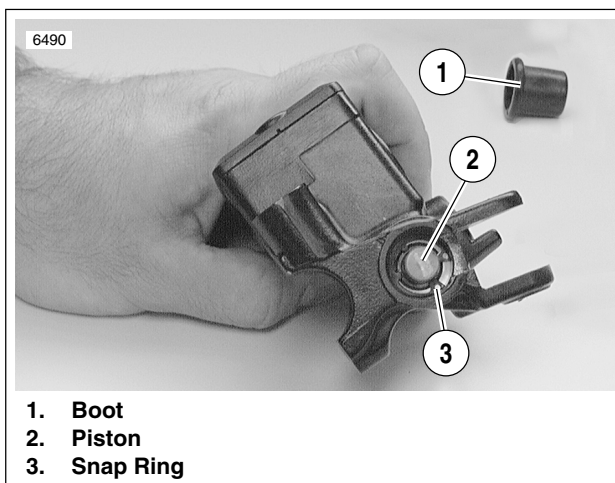
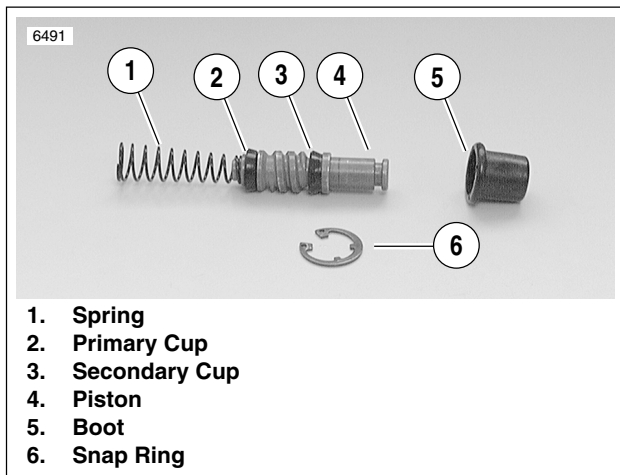

Figure 2-24. Snap Ring
Figure 2-25. Piston Assembly
3. See Figure 2-24. Compress piston (2) and remove boot (1).
4. Depress piston assembly and remove internal snap ring (3). Discard snap ring.
5. See Figure 2-25. Remove piston assembly (1-4) from front master cylinder.